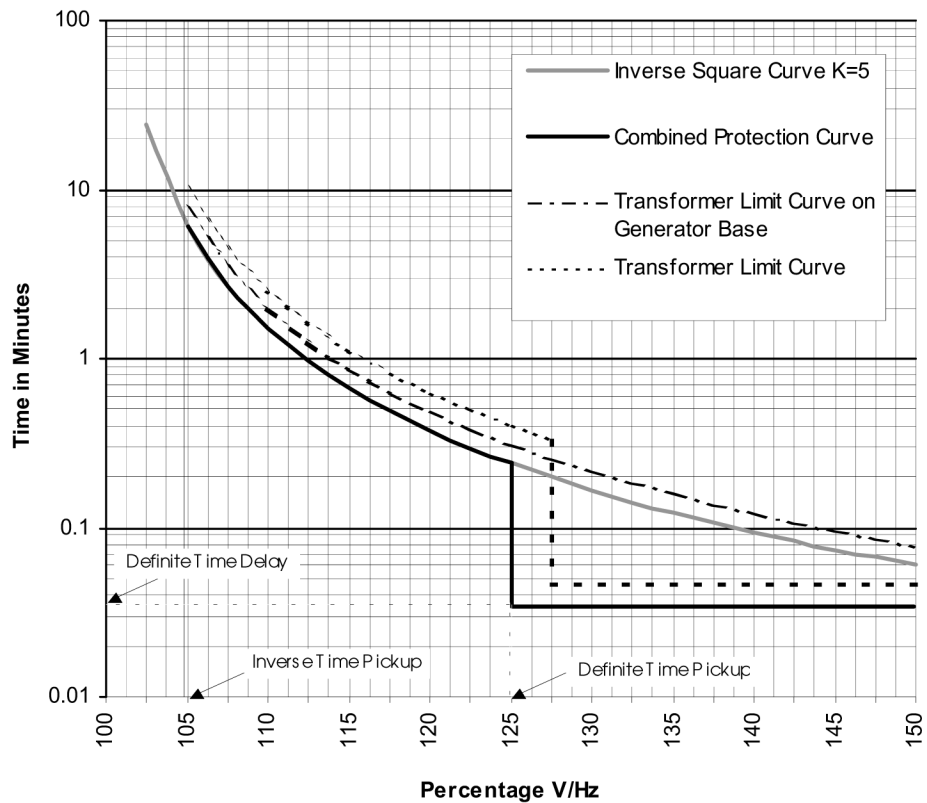

Figure 2-3 Example of Capability and Protection Curves
■ **NOTE:** The curves must be on the same voltage base to be combined on one graph. An example is shown in Figure 2-3 Example of Capability and Protection Curves. The manufacturer of the generator and transformer will provide these over-excitation capability limits.
Figure 2-3, Example of Capability and Protection Curves, illustrates a composite graph of generator limits, transformer limits, a chosen inverse time curve, inverse time pickup, and definite time setpoint. While inverse time curve selection provides closer protection, a traditional two-step protection scheme may be realized by using the two definite time functions (24DT #1 and #2), and disabling the inverse (24IT) element.
Definite time setpoint #1 establishes the V/Hz level above which the protection operating time will be fixed at the definite time delay #1 (see Figure 2-3). 100% value is equal to nominal voltage at nominal frequency. Refer to Section 2.3 **System Diagrams**, System Setup.
As shown in Figure 2-3, the pickup value is the V/Hz value (in %) that the chosen inverse curve begins timing. Typical value is 105%.